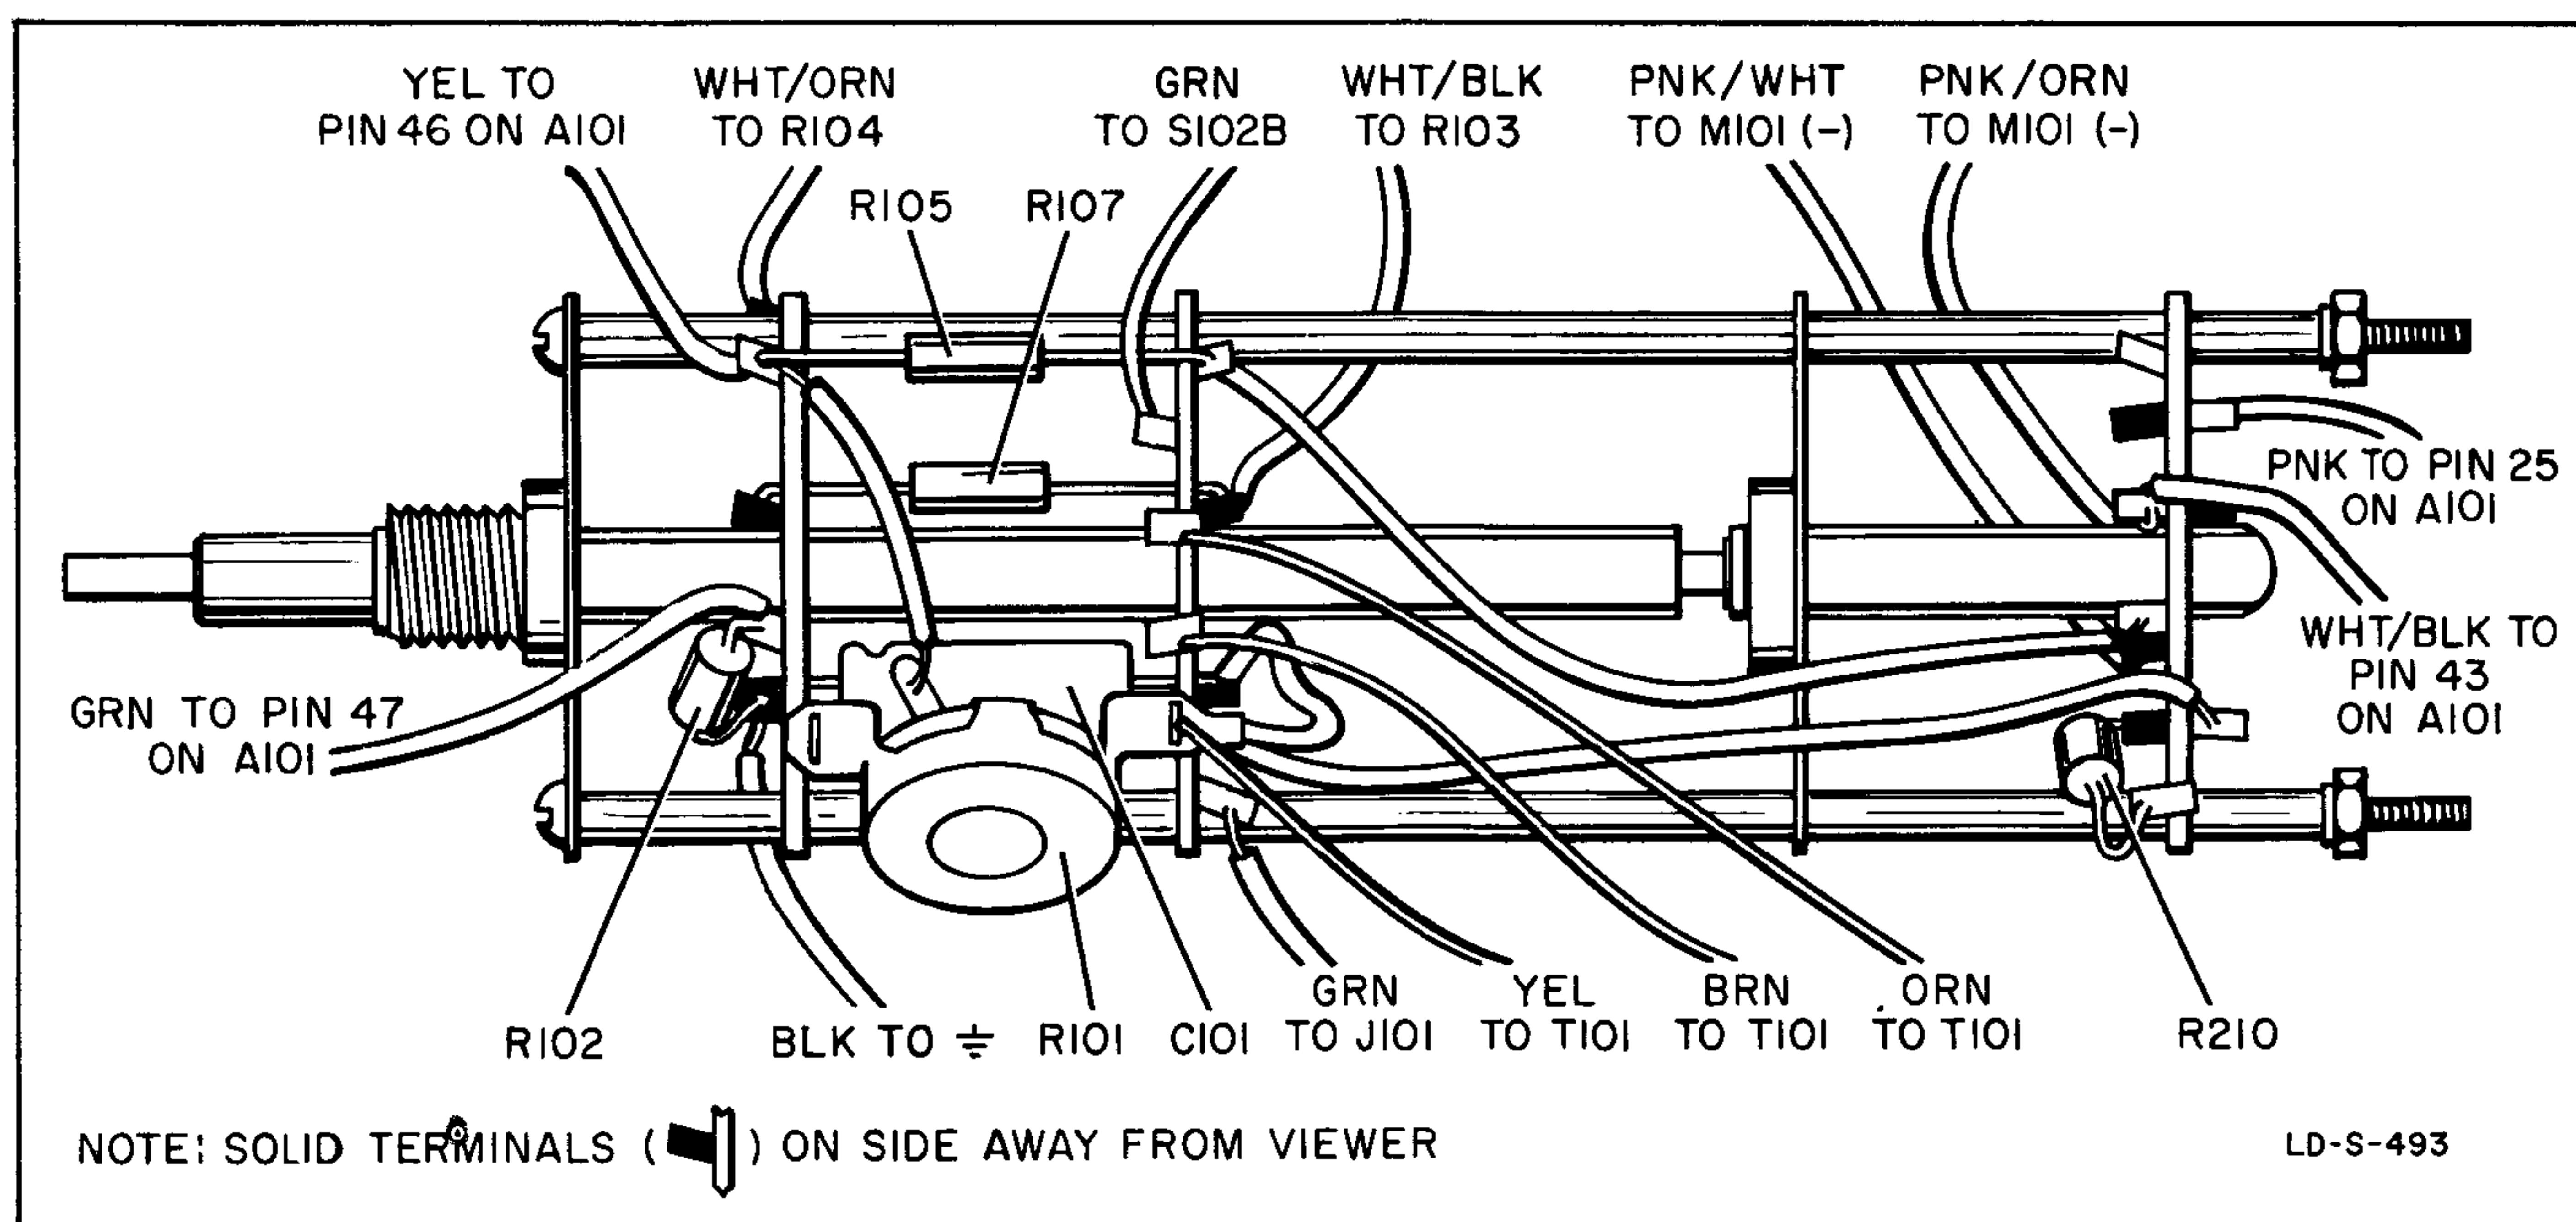

Figure 5-6. S101-S104 INPUT SELECTOR-BIAS CHECK Switch Component Identification
5-32. If a trouble is suspected in one of the Model 415C switches, use the schematic diagrams, figures 5-14 and 5-15, to help isolate a defective part. The schematics show how each switch section routes the signal and also included with figure 5-14 are simplified switching diagrams showing what happens with different RANGE and INPUT SELECTOR switch settings. Refer to figures 5-6, 5-7, and 5-8 for component and terminal location on the switches. Paragraph 5-51 details the procedure for removing the switch assemblies from the instrument.
e. Unsolder connecting wires. Mark each to indicate which lugs to resolder wires to. See figure 5-6 for wire colors and connections.